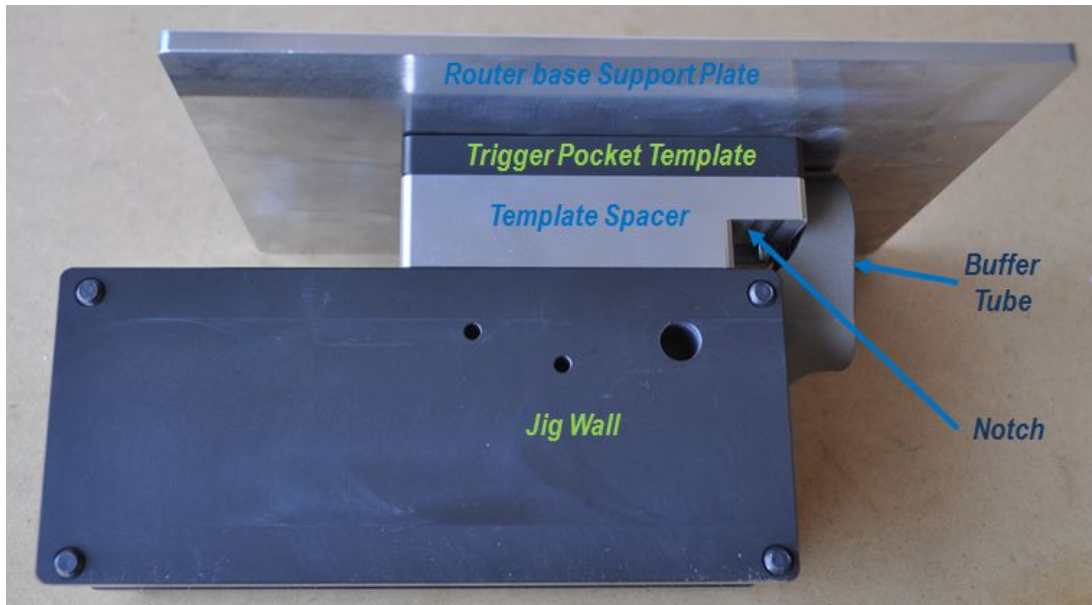

Figure 3.1: "EZ jig" for trigger pocket milling showing the stack-up.
- Assemble the jig using the stack-up shown in figure 3.1.